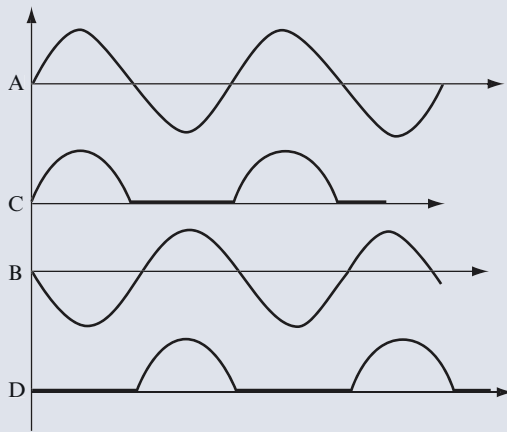
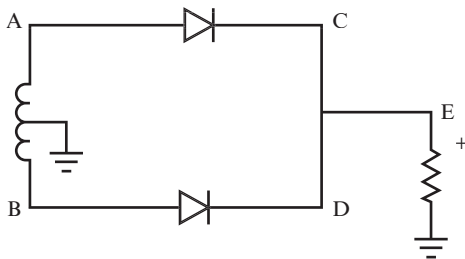

FIGURE 11.14
FIGURE 11.15
- C. See Figure 11.14.
11 Figure 11.15 shows a circuit in which diodes connected to the ends of a center-tap transformer are connected to ground through a single resistor. The output voltage waveforms from both diodes are therefore applied across one load resistor. This type of circuit is called a *full-wave rectifier*.
On a separate sheet of paper, draw the waveform representing the voltage at point E in the circuit, as shown in Figure 11.15. (This waveform is a combination of the waveforms at points C and D shown in Figure 11.14.)
How does this circuit differ from the circuit shown in Figure 11.15? _____